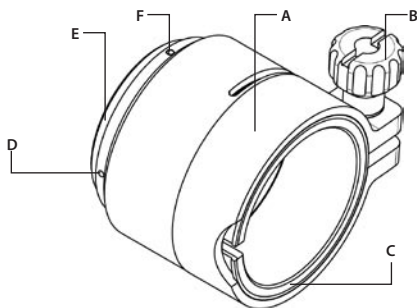

FIGURE 3-8. SCOPE MOUNTING SYSTEM
To install the CO-MR on the lens of a day scope, do the following (see Figure 3-8):
3. Using a screwdriver, remove the both M2×2.5 screws (F, see Figure 3-8). Unscrew the ring (E).